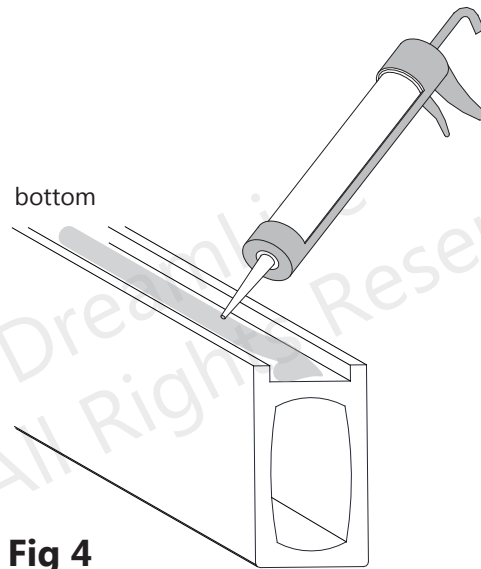

Fig 4
4. Apply silicone into the groove along the bottom surface of the **Bottom Rail (#08)**. (Fig 4)